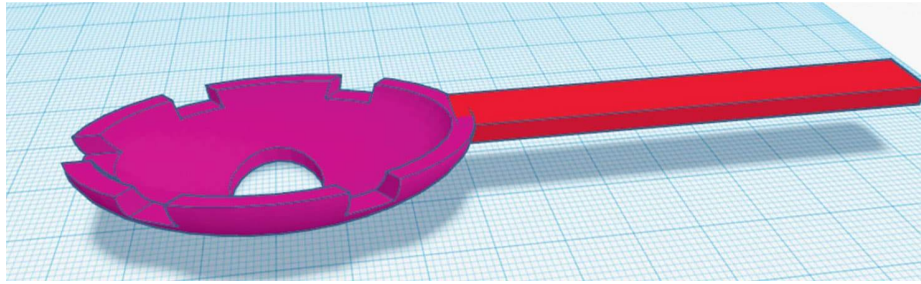

FIG. 7: Add a handle and group all the pieces together.
7. Group the cylindrical hole and the spoon to complete the hole in the spoon. Add a handle as shown in fig. 7.